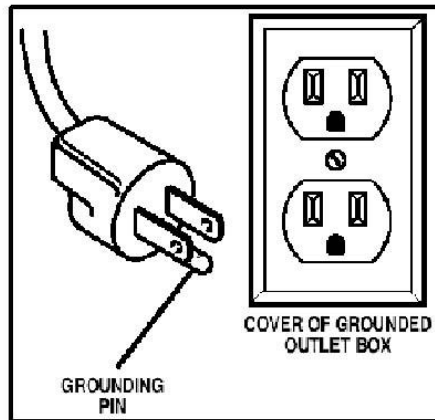

Figure 1
- For personal safety, the cooktop must be properly grounded. A properly-grounded 3-prong receptacle (see Figure 1) should be located 12" below the countertop and within reach of the cooktop's four-foot power cord.